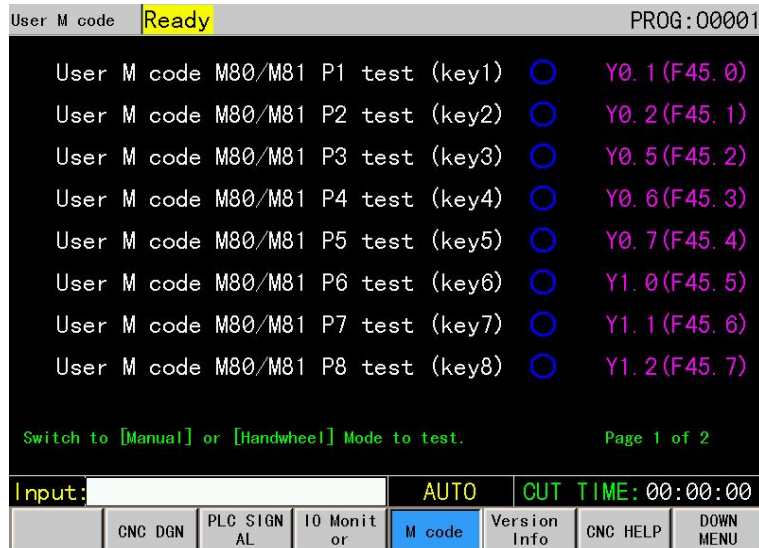

Figure 2-6-4-1
1、 Press the 【 User M Code 】 soft key in the<Diagnosis>interface of the CNC diagnostic interface to enter the User M Code interface. See figure 2-6-4-1: